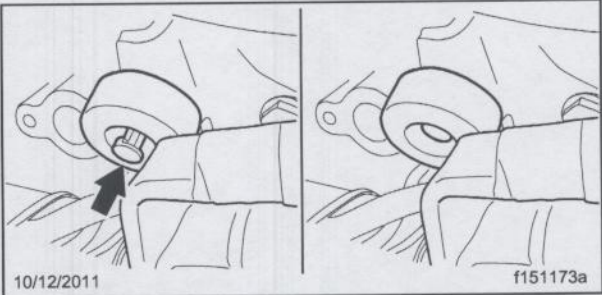

Fig. 2, Installing Isolator with Nylon Push-Rivet
5. Install the new isolator using the nylon push-rivet from the kit. See **Fig. 2**. There must be approximately 1/2-inch (13 mm) of clearance between the isolator and the starter cable.